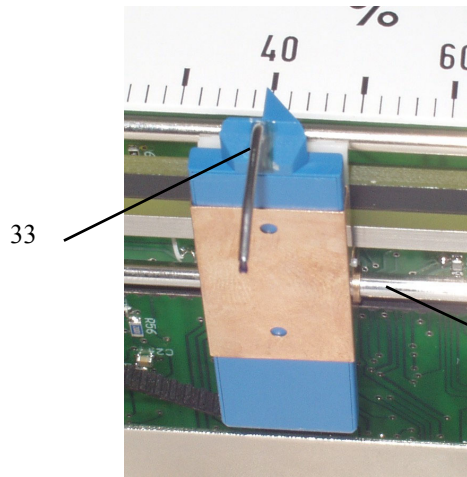
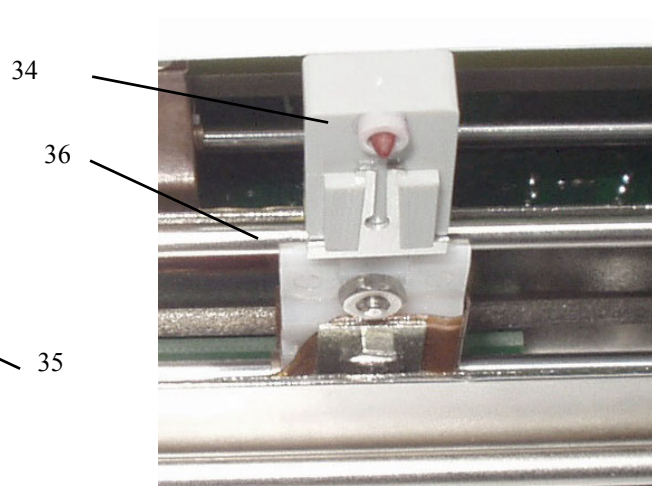

Fig. 19
Fig. 20
- paper guides /26/ should be positioned in the upper position and snapped, as shown on the fig. 19.design.
Every ca 3 months of the recorder exploitation, remove the collected impurities on the carriage guide of the measuring system by means of a clean cloth (Fig.19, item 35) and on the printer carriage (Fig. 20, item 36). Drift on the carriage guide a small quantity of oil (2 drops) and distribute it by several displacements of the carriage and then, wipe the guide to a dry state.